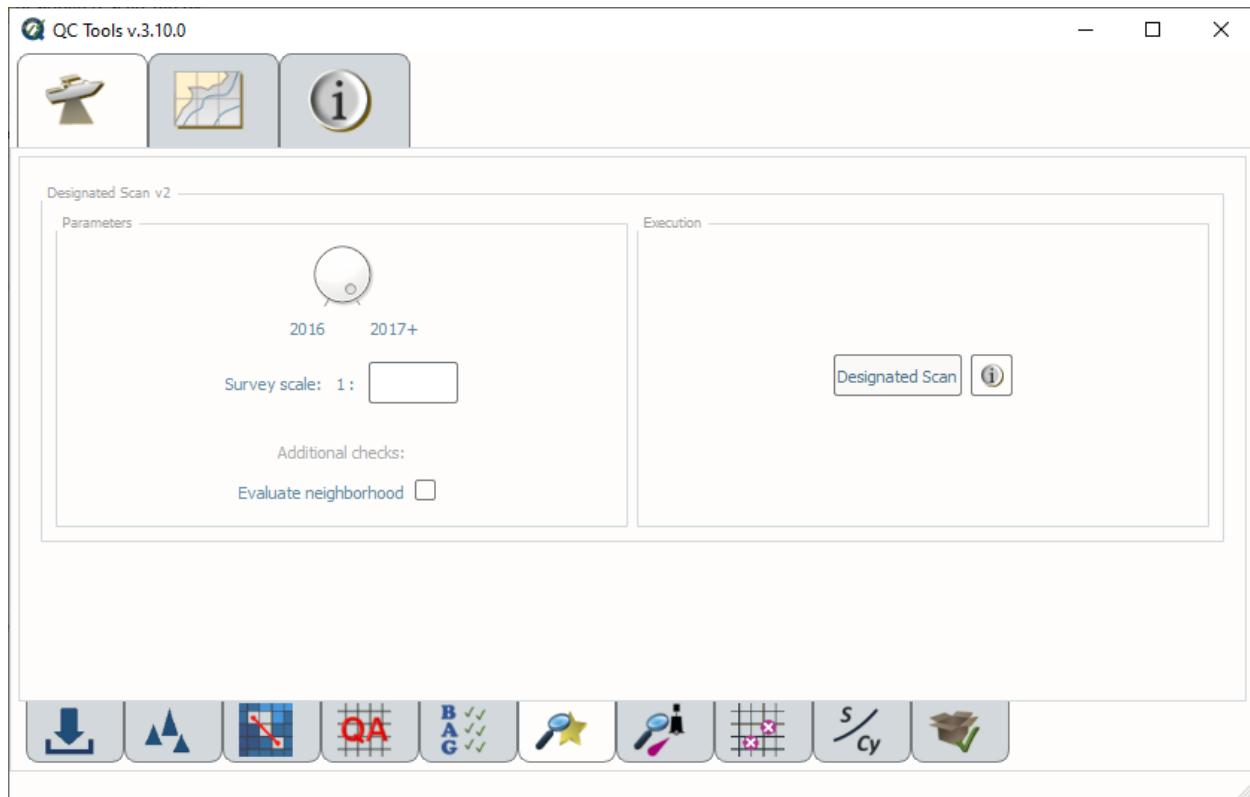

Fig. 2.44: The Designated Scan tab.
- Select the **Designated Scan** tab (Fig. 2.44) on the bottom of the QC Tools interface.